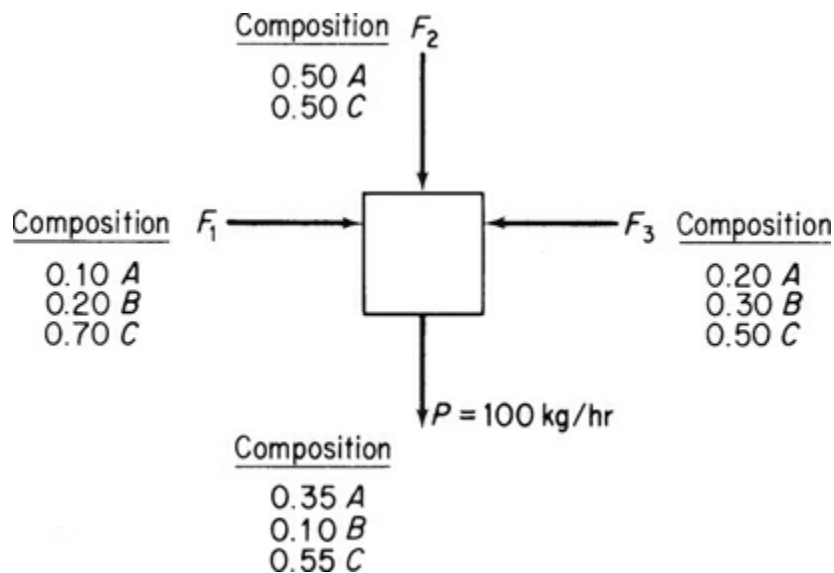

Figure P3.3.2
****3.3.2** For the process shown in Figure P3.3.2, how many material balance equations can be written? Write them. How many independent material balance equations are there in the set?